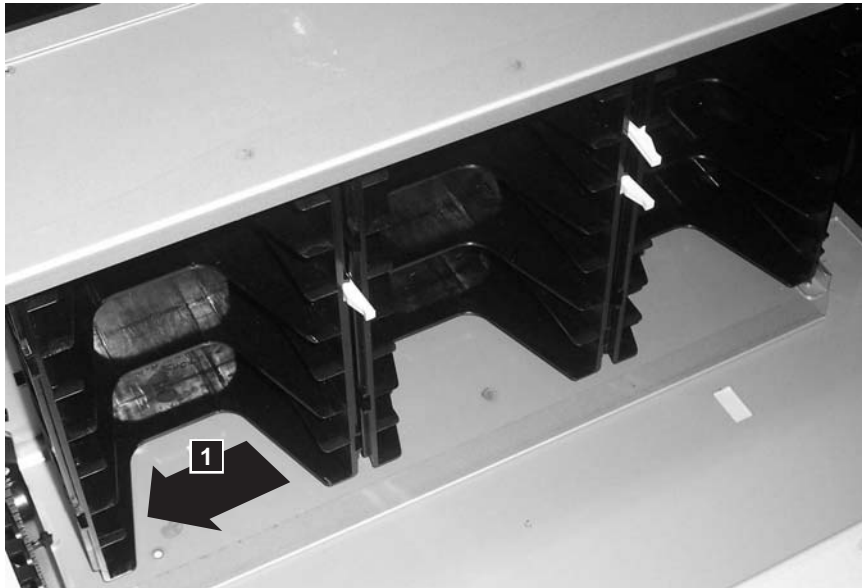

Figure 8-48. Removing a storage column
- Pull the storage column toward the front of the library (1 in Figure 8-48) to disengage the locking tabs on the back of the column.